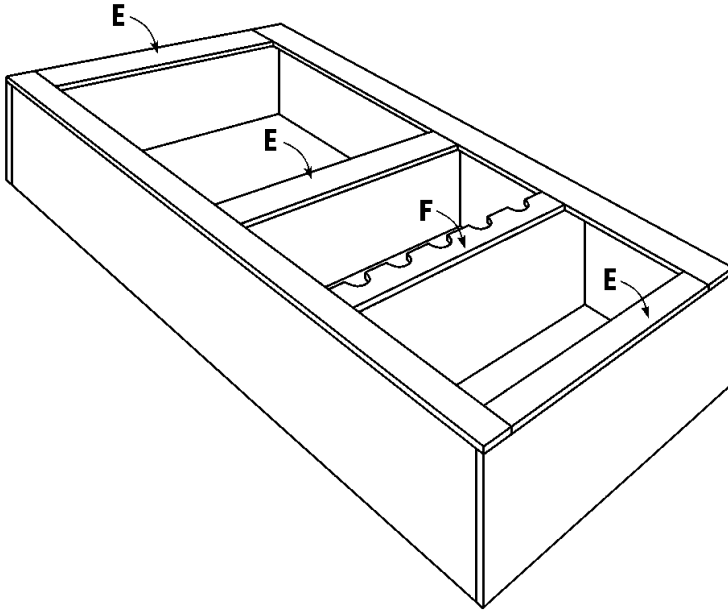
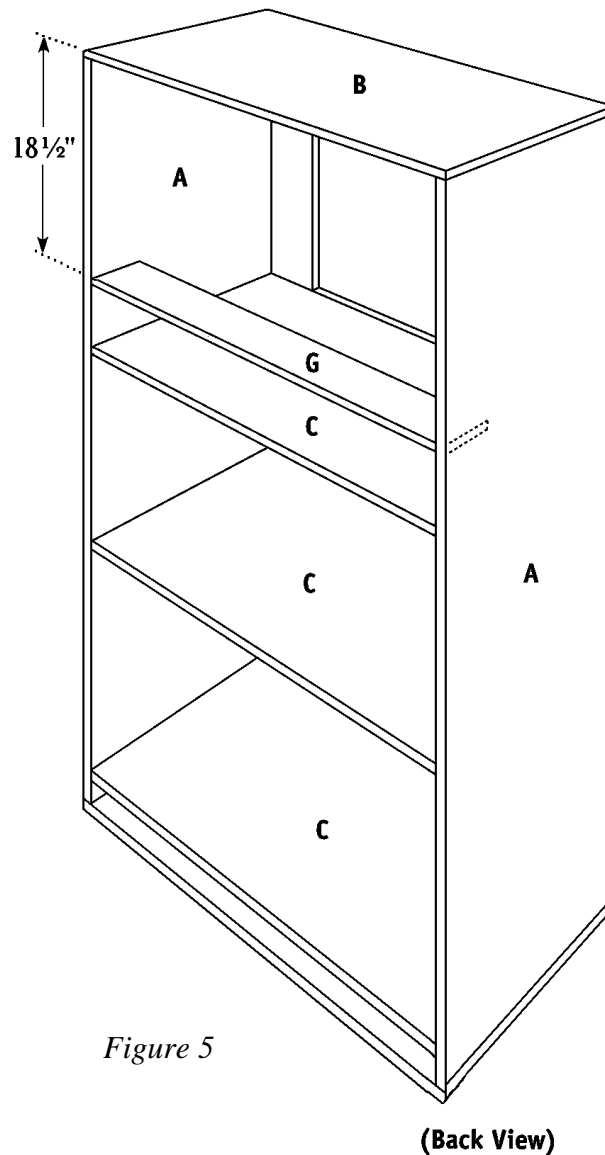

Figure 3
Figure 5
- Repeat Step 1 to attach the remaining Vertical Trim (D) to the opposing Side (A).
- Cut three Horizontal Trims (E) from 1 x 4 pine, each measuring 26-3/8 inches.
- Apply glue to the meeting surfaces, and attach one Horizontal Trim (E) over the edge of the Top (B), as shown in *Figure 3*. Screw through the Horizontal Trim (E) into the edge of the top (B). Use 1-5/8" wood screws spaced every 5 inches.
- Repeat Step 4 to attach the remaining two Horizontal Trims (E) flush with the upper edge of the Shelf (C) and flush with the lower edge of the bottom (B). See *Figure 3*.
- Cut two Horizontal Wine Trims (F) from 1 x 4 pine, each measuring 26-3/8 inches.
(F) on the edge of the lower Shelf (C), as shown in *Figure 3*. Use 1-5/8" wood screws spaced about every 5 inches.
- Repeat Step 7 to attach the second Horizontal Wine Trim (F) 5-1/2 inches above the first Horizontal Wine Trim (F). Apply glue to the meeting surfaces, and fit the second Horizontal Wine Trim (F) between the two Vertical Trims (D). Toenail through the Horizontal Wine Trim (F) into each of the Vertical Trims (D). Use 1-1/2" finishing nails.
- Cut one Ledge (G) from 1 x 4 pine measuring 31-7/8 inches. Place the Ledge (G) between the two Sides (A) 18-1/2 inches below the Top (B) as shown in *Figure 5*. Use 1-5/8" wood screws to attach.